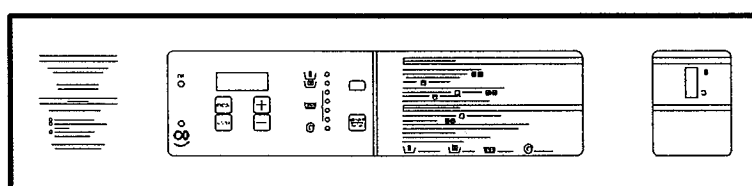

fig. 2
- STANDARD MICROPROCESSOR version (SM). (fig.2)
- Variante STANDARD MICROPROCESADOR (SM). (fig.2)
- Version STANDARD MICROPROCESSEUR (SM). (fig. 2)